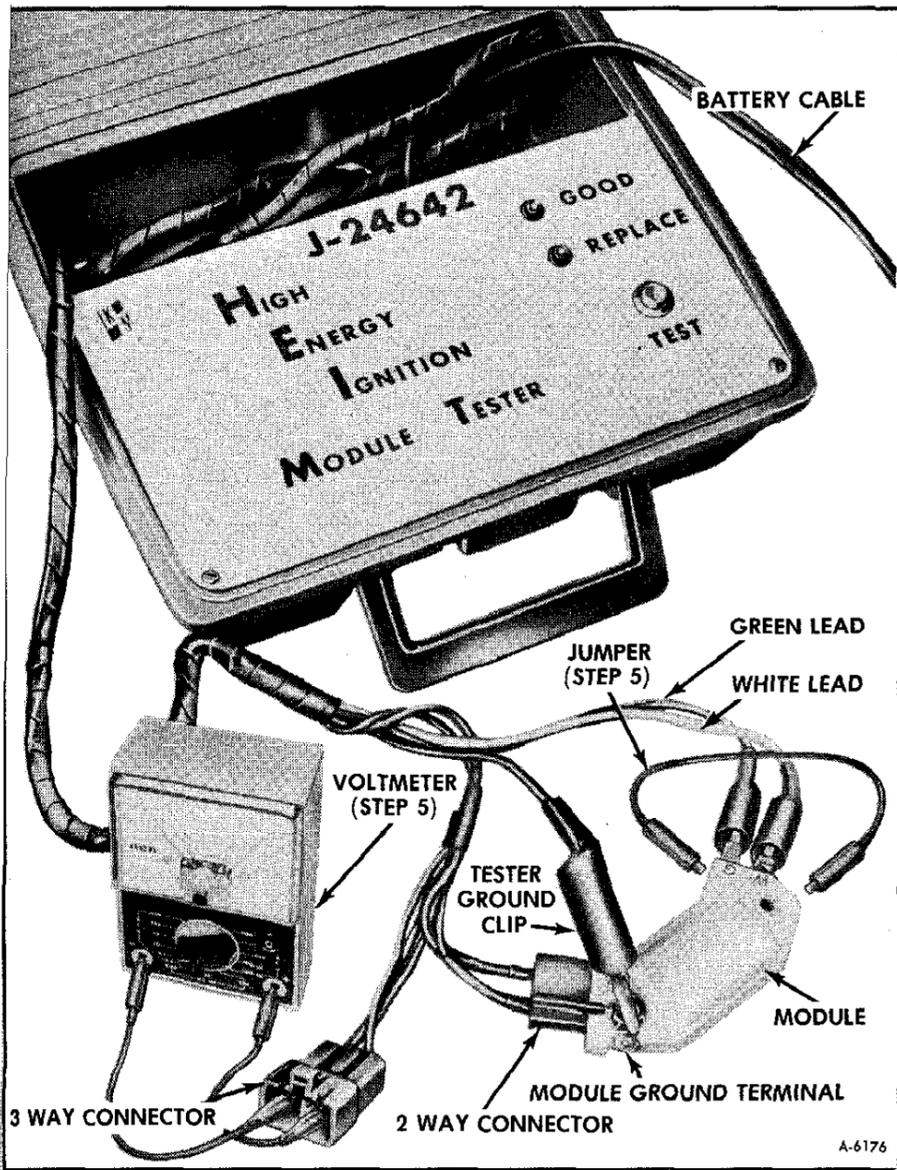

Figure 11—Test No. 3, Using Tool J-24642
(Figure 11)
5. Perform steps 10 and 11 of TEST 1, except connect the voltmeter in this check to the 3-way connector, as shown in figure 11.